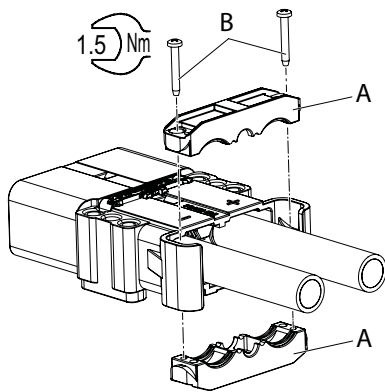

Fig. 25:
Recommendation: Before tightening the strain relief screws (*Fig. 25/B*), connect the charger/vehicle plug to a battery socket and only then tighten the strain relief screws of the plug. This will result in alignment of the main contacts.
1. Position the upper and lower clamp (*Fig. 25/A*) of the strain relief on the cable.
3. Using a PH2 crosshead screwdriver, uniformly tighten the clamps (A) using both screws (B). In doing so, ensure
- that both screws (B) are uniformly tightened,
- that the clamps (A) are not tilted or skewed.
4. Tighten both screws (B) to a torque of 1.5 Nm.